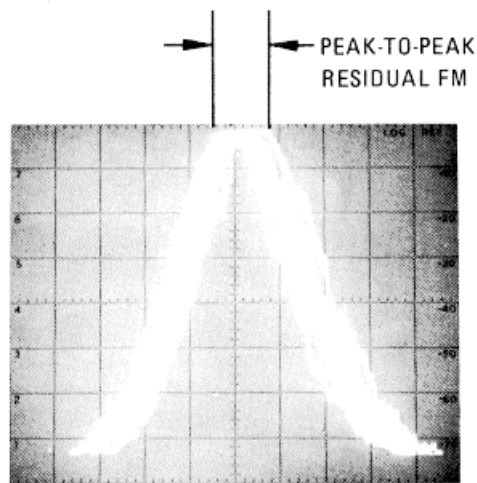

Figure 4-4. Residual FM Disposable on Spectrum Analyzer
- i. The trace should be similar to Figure 4-4. The FM deviation measured across top of trace should be less than 50 kHz (5 divisions).